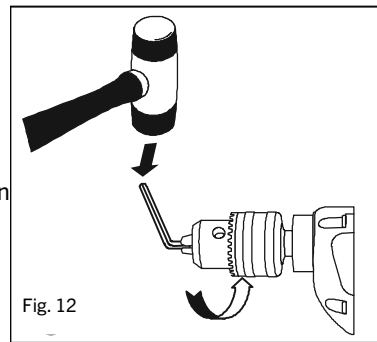

Fig. 12
7. Insert the hex key into the chuck and tighten the jaws of the chuck securely (Fig. 12). Tap the hex key sharply with a mallet in a COUNTER-CLOCKWISE direction. This will loosen the chuck on the spindle. The chuck can now be unscrewed and removed from the spindle by hand.
2. Tap the hex key sharply with a mallet in a CLOCKWISE direction (Fig. 12). This will tighten the chuck on the spindle.